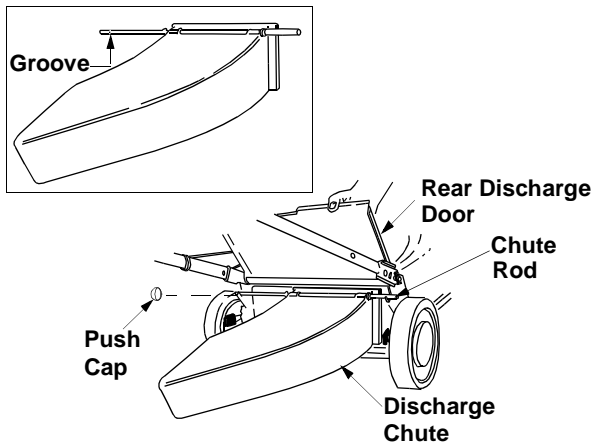

Figure 6
- There is a groove 2" from the left end of the rod. Bend and snap off approximately 2" of the rod with a pair of vise grips. See Figure 6.
- Insert push cap, provided with the chute rod, onto the end of the rod which you just snapped off. Tap on with a hammer. See Figure 6.